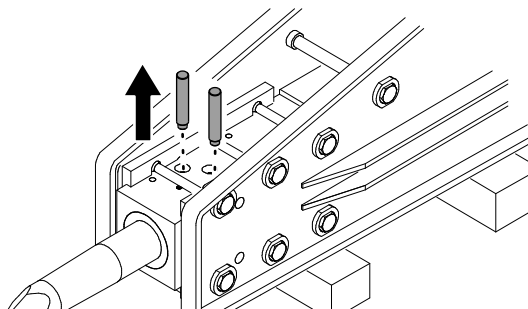

Figure 6
3. Remove the retainer pins (Figure 6).